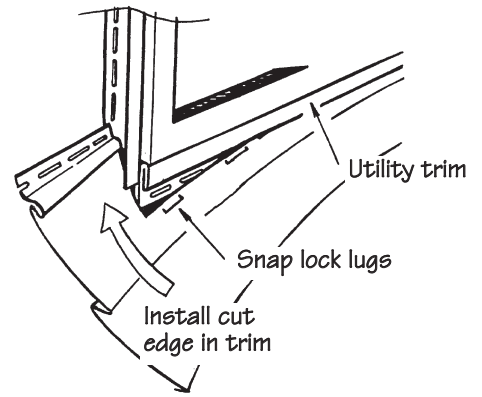

Figure 39.
- Install the siding panel, making sure the lugs (from the snap lock punch) lock into the utility trim (Fig. 39).